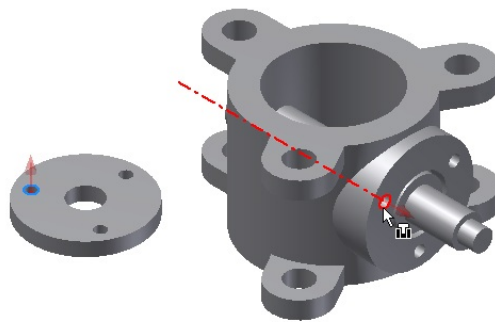

Figure 9-66 *Selecting the edges to apply the **Insert** constraint*
6. Choose the **Insert** button from the **Type** area. Select the circular edge of one of the smaller holes on the top face of the Retainer as the first edge, see Figure 9-66.
7. Select the circular edge of one of the smaller holes on the front planar face of the circular feature on the Body to apply the constraint, see Figure 9-66. Next, choose the **Apply** button.